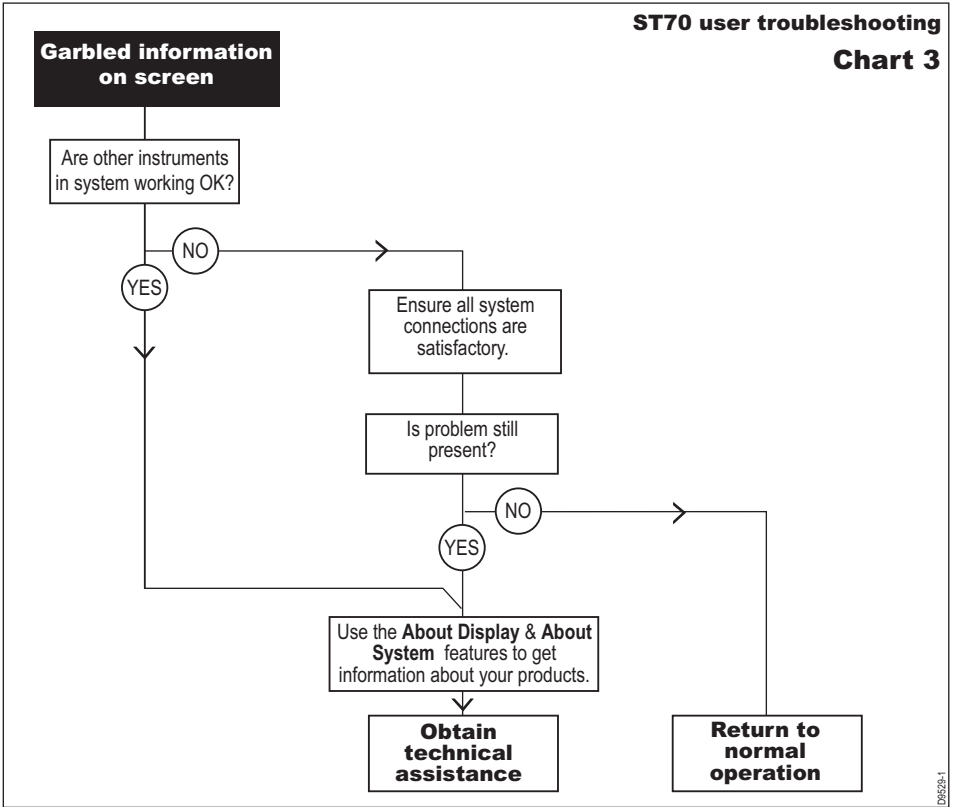

Figure 4-3 ST70 troubleshooting – Chart 3
- Data on the pilot head screen is garbled- refer to *Figure 4-3* on page 31